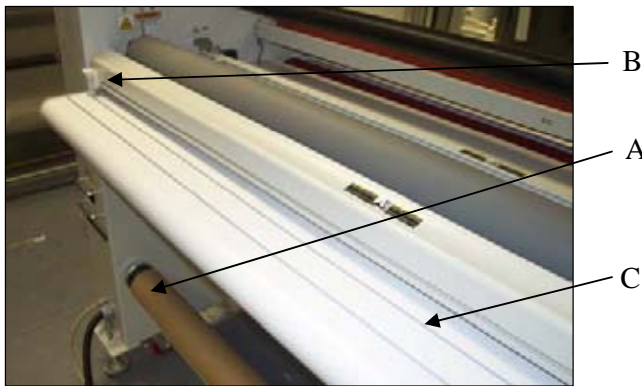

Figure 3
1. **Straight Slitter:** Used for slitting the media after lamination -- Rear Table. (Fig. 3 – Item B)
Rewind Take up: (Fig. 3 – Item A)